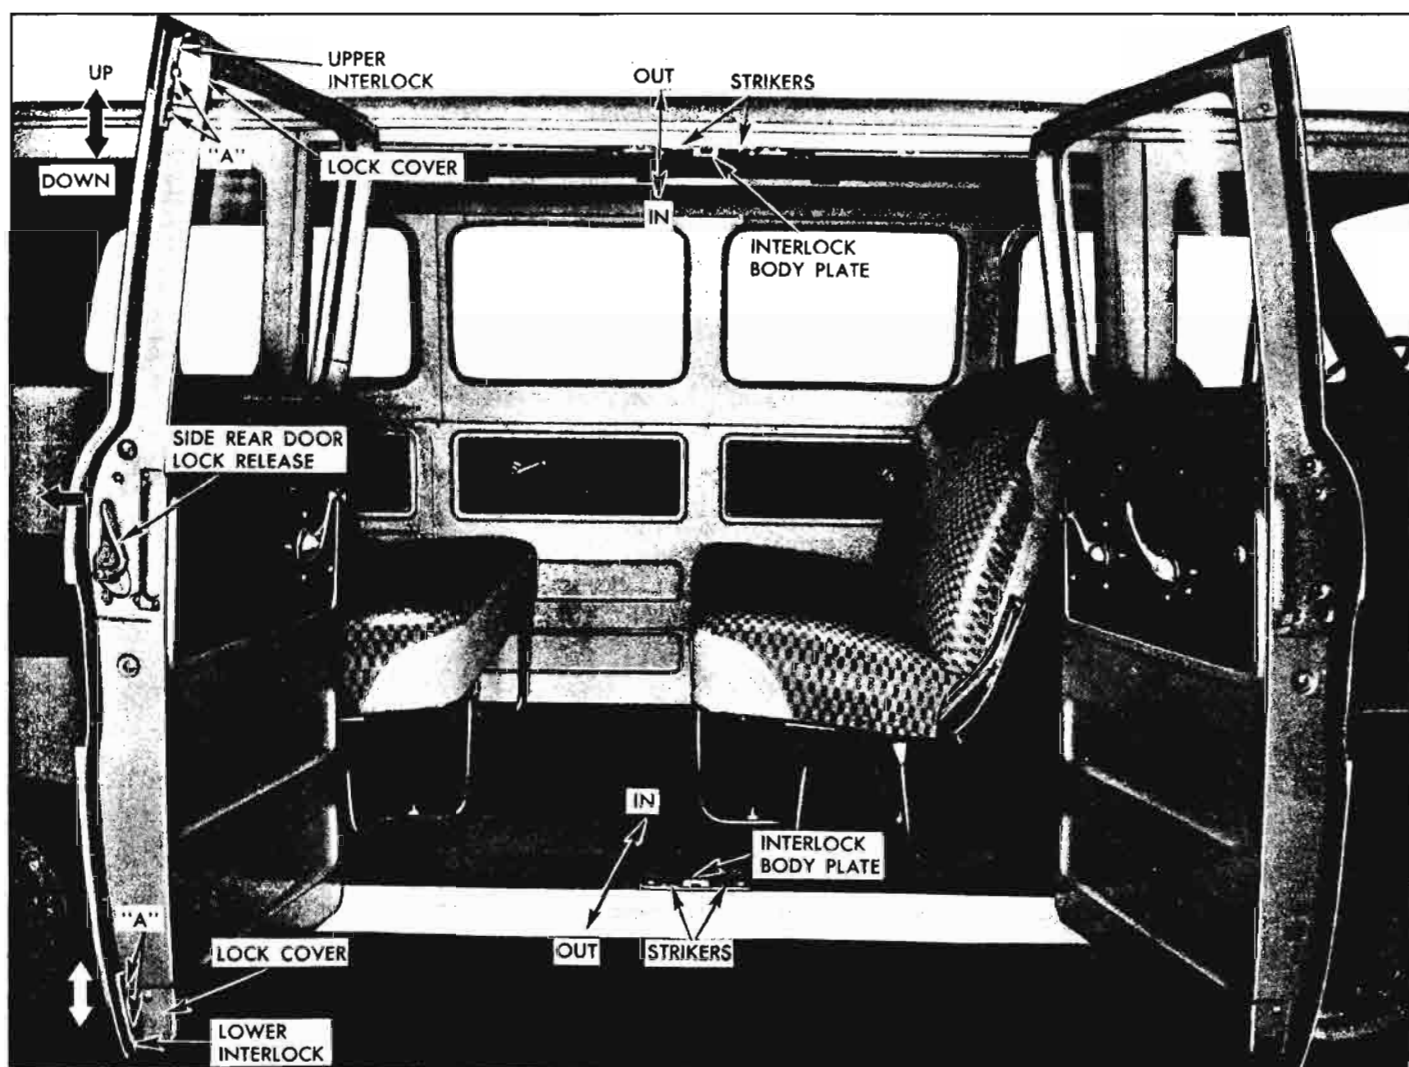
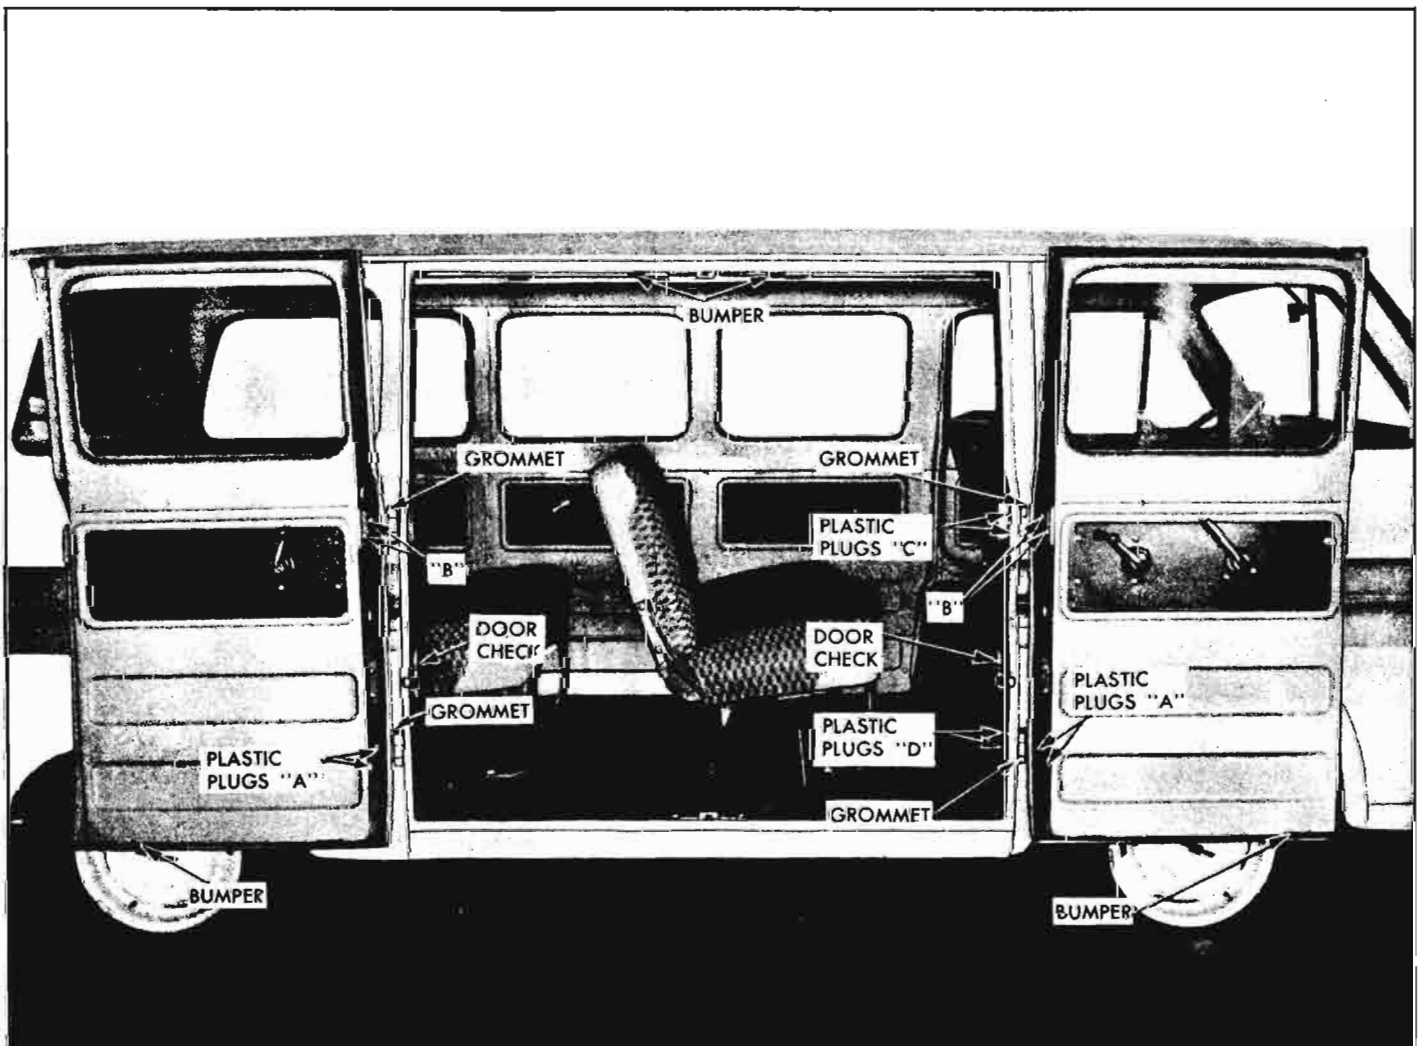
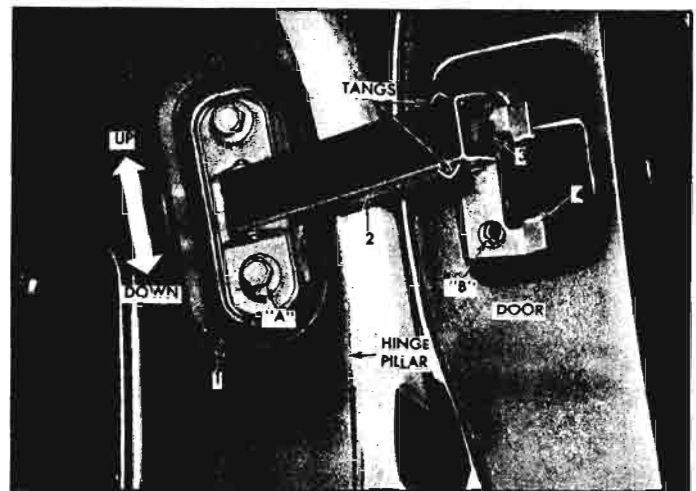

Fig. 10-56a—Side Double Doors—95° Position
Fig. 10-57a—Side Double Doors—Fully Open
Fig. 10-62a—Side Door Check Assembly
The side double doors are two different units; the front half is called the side intermediate door and the rear half is called the side rear door. The side double doors feature two-position checks (fig. 10-62a) which permit the doors to open at 95° (fig. 10-56a) and fully open (fig. 10-57a) which is reached by pushing the door check in while giving the desired door a slight
1. Remove plastic plugs from hinge assembly ("A", fig. 10-57a) and remove the door to lower hinge retaining bolts.
2. With the aid of an assistant to support weight of door, remove the door to upper hinge retaining bolts and slide door off of hinges and grommet (fig. 10-57a).
3. If hinge is damaged, remove the hinge to pillar bolts. On the side intermediate door, remove plastic plugs at ("C" and "D", fig. 10-57a) and remove retaining bolts.
1. Loosen bolts ("A", fig. 10-56a) at upper and lower interlock attached to the side rear door assembly.
2. Loosen the upper and lower interlock plates attached to the body (fig. 10-56a).
NOTE: Rubber bumpers shown in Figure 10-57a should touch the doors snugly at the top and the bumpers on the bottom of the doors should touch body opening snugly. Spacers can be used as necessary for this adjustment.
4. With interlocks in the body interlock plates, tighten retaining bolts ("A", fig. 10-56a) and tighten interlock body plate screws.
2. Striker plates can be moved in or out (fig. 10-56a) for adjustment.
1. Open side double doors and remove retaining bolts at ("A", fig. 10-62a) and remove check assembly and retainer plate and dust seal.
NOTE: Door check assembly can be adjusted up and down as shown in Figure 10-62a.